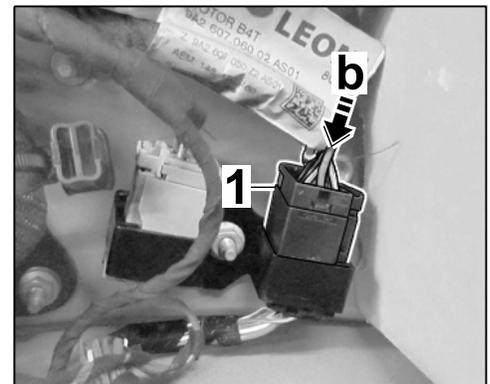

Figure 8
- 2.3.5 Connect electric plug connection ⇒ *Figure 8-1-* (⇒ *Figure 8-b-*).